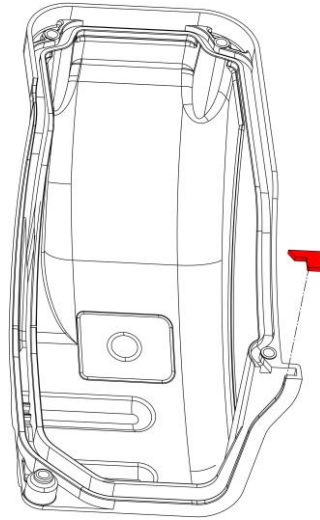

Figure 25 – Installing Mains Cover Foam
- Remove the adhesive backing and carefully install the Top Cover Sealing Foam. The foam must be aligned with the edges of the cover. Refer to Figures 25 (Installing Mains Cover Foam) and 26 (Mains Cover Foam Installed). If cut properly, the seal installed in the previous step should rest against the foam.